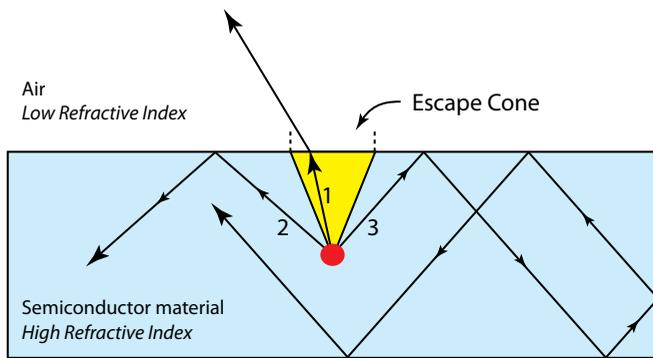
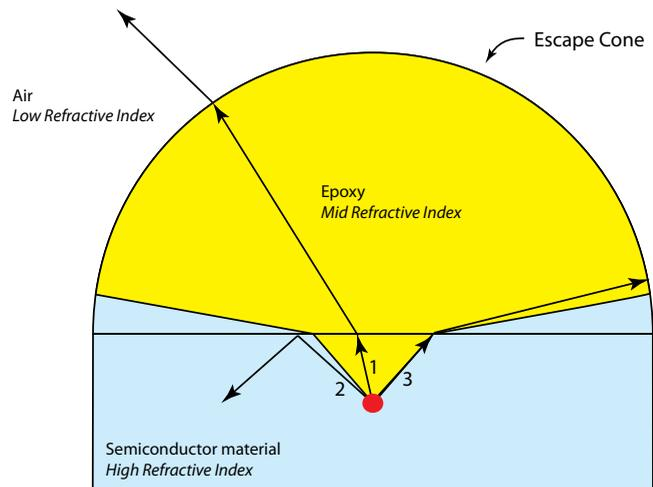

Figure 2 – TIR in a rectangular LED die
Figure 5 - TIR with epoxy encapsulation of the LED die
Back to LEDs – how does TIR impede the transmission of light out of an LED die? **Figure 2** shows a hypothetical LED die which is fabricated very simply as a rectangular block with the P-N junction horizontally across the center and its upper emitting face into air. In this figure the red dot shows an emitting point on the junction (in actuality the emitting region is an area, not a single point, but this simplifies the explanation). Looking first at light ray 1, you'll see it hits the boundary between the high refractive index
by TIR in a rectangular block, the light can never escape. It will hit every surface at an angle above the critical TIR angle and keep bouncing around forever, just like the light in an optical fiber. The yellow area in **Figure 2** shows the very small range of angles where a light beam can get through the boundary on that surface. In three dimensions, this region is cone shaped and often called the *escape cone*. In case you think I'm exaggerating how small that cone is in the figure, let's look at some real figures: for a gallium arsenide-based material (commonly used in red LEDs), which has a very high refractive index of 3.4, the escape cone has a half angle of only 17.1°, which means that only a little over 2% of the light can ever escape! Gallium nitride materials (blues and greens) are better, but still pretty poor; with a lower refractive index of 2.5, their escape cone has a half angle of 23.6° which equates to just over 4% output.
**Figure 5** shows the same simple rectangular LED die shown in **Figure 2**, but with a hemispherical cap of an epoxy encapsulant on top of it. This encapsulant is chosen to have a refractive index that is between those of the semiconductor and the surrounding air. So, although we've doubled the number of boundaries from one to two, each one has a smaller difference in refractive index, and thus a larger escape cone. This is particularly helpful at the boundary between the semiconductor and the encapsulant. A simple encapsulant like this can improve the light extraction efficiency by a factor of 2x, taking our original 2% up to 4%. This is still not too good for light output, but is inexpensive and sufficient for many indicator style LEDs.